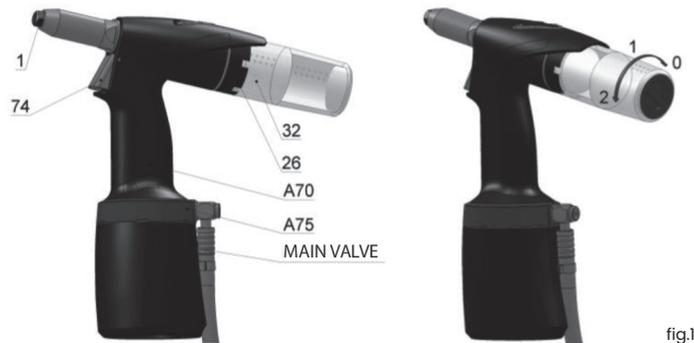

fig.1
Check the opening of the hand slide valve [main valve fig. 1] on the tool. All devices in our AS series can be quickly disconnected from the compressed air to check or temporarily switch off the suction device.
The manufacturer equipped the tool with a nosepiece /fig.1 – pos.1/ for a rivet Ø5.0. Riveting with blind rivets of different diameters [further on referred to as BR] requires use of appropriate nosepieces that are stored in the mandrel collector or in the carton box.
**Replacement of nosepieces:** Connect the tool to the source of compressed air, depress the trigger and screw out the nosepiece /fig.1 – pos.1/ with a spanner no. 12. Screw on a new nosepiece /acc. to the chart/ and tighten it. Now you can release the trigger of the tool.
The tool is equipped with revolving air supply /fig.1 – pos.A75/ which enables manipulation with air supply before as well as during tool operation, air hose does not obstruct riveting in any position.
The tool is equipped with multifunction trigger /fig.1 – pos.74/ which enables following:
The tool is equipped with a multifunctional mandrel collector /fig.1 – pos.32/ which has the following positions:
Put and push the mandrel collector /fig. 1 – pos. 32/ into the ring relief /fig.1 – pos.26/ end-to-end, thus you depress the arrestment element, and turn to position 1 or 2. The mandrel collector shall thus be in place. The suction shall initiate in position 2. Relative position of the mandrel collector with air outlets /fig.1 – pos.32/ and the ring relief /fig.1 – pos.26/ ensures that the outlet air pressure goes out in a suitable direction [e.g. offward the operator of the tool].
Turn the mandrel collector /fig.1 – pos.32/ end-to-end to position 0 and pull it out of the ring relief /fig.1 – pos.26/. The suction shall thus switch off.
Suction switches off by turning and removing the mandrel collector /fig.1 – pos.32/. Insert BR into the riveting tool through the nosepiece hole. Depress the trigger to move the jaws offward the BR head. The movement ends when reaching max. stroke, correct BR with respect for material gauge shall tear off the shank [riveting] for one stroke of the tool. Releasing the trigger shall return the jaws to initial position and released torn-off shank can be removed from the nosepiece by tilting the tool. /fig.1 – pos.1/.
Mounting and turning the mandrel collector /fig.1 – pos.32/ to position 1 shall arrest it. Insert BR into the riveting tool through the nosepiece hole. Depress the trigger to move the jaws off ward the BR head. The movement ends when reaching max. stroke, correct BR with respect for material gauge shall tear off the shank [riveting] for one stroke of the tool. Releasing the trigger shall return the jaws to initial position and the released torn-off shank can be transported into the mandrel collector by tilting the tool.
Suction switches on by turning the mandrel collector /fig.1 - pos.32/ to position 2. In this position the suction holds BR in the nosepiece /fig.1 - pos.1/ which enables riveting in any position without danger of BR falling out of the nosepiece of the tool. Depressing the trigger shall perform riveting. Releasing the trigger shall transport the shank into the mandrel collector.